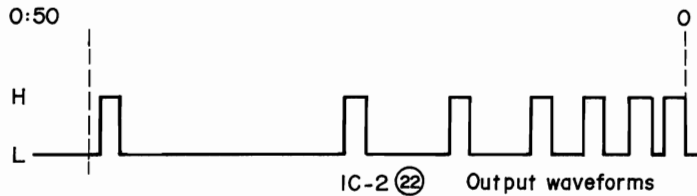

Fig. 6-46
Such waveform as shown in Fig. 6-46 appears at IC2 (22).